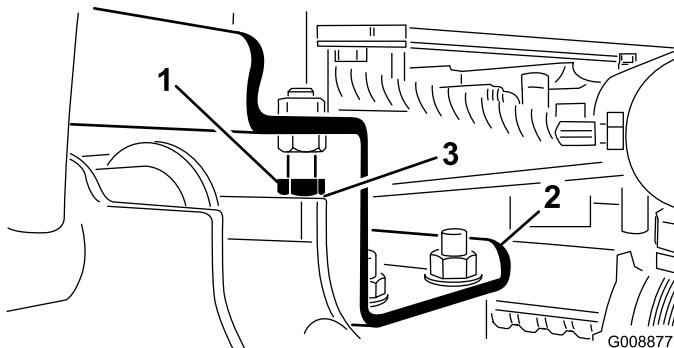

Figure 23
- A. Back off the stop bolts and adjust the cylinder to attain the clearance (Figure 23).
2. Check to ensure that the clearance between each lift arm and stop bolt is 0.005 to 0.040 inches (0.13 to 1.02 mm) (Figure 23).